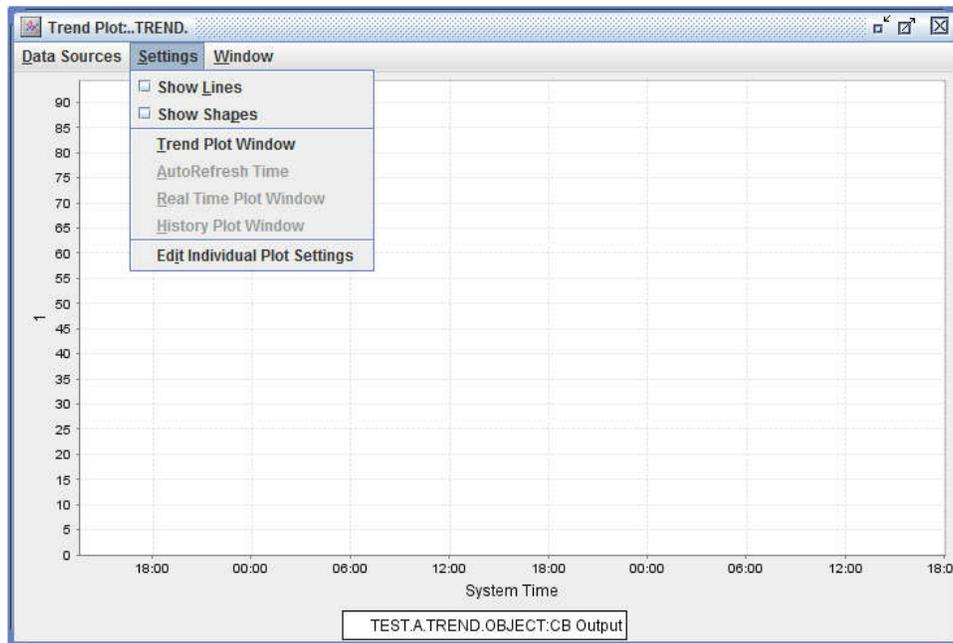
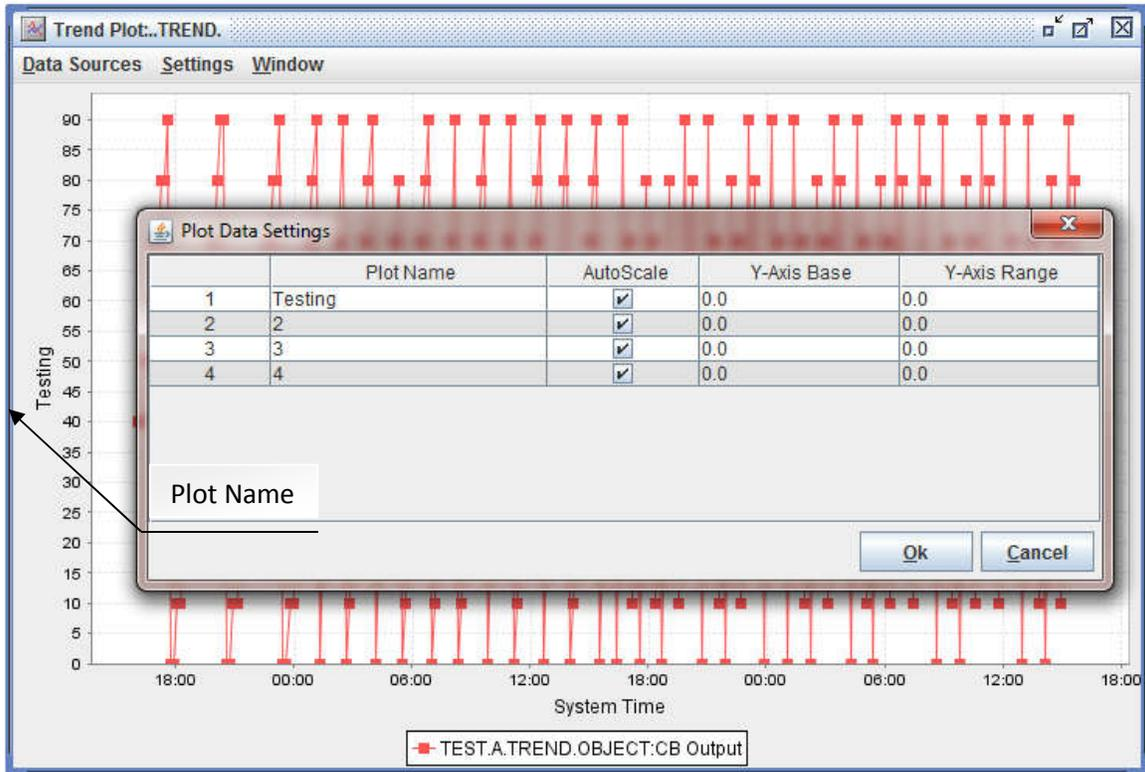

Figure 65 - Settings Menu in the Trend Plot Window
Figure 69 - Plot Data Settings Window
Figure 65 shows the Settings menu in the Trend Plot window. With the Settings menu, a user can do the following:
1. Click the Trend Plot Window command as show in Figure 65 to open the Object Trend Plot Window (Figure 66).
A trend plot window can plot up to four plots. Each plot can have a user defined name. The name can be assigned in the Plot Data Settings window as shown in Figure 69. The default name of each plot is the same as its plot number.
2. Click Edit Individual Plot Settings (Figure 65) to open the Plot Data Settings window (Figure 69).
4. Type in the plot name. In Figure 69, the name of Plot 1 is "Testing" which is displayed on the left side of the y-axis.
If the AutoScale option box is checked (Figure 69), the y-axis scale will be automatically scaled based on the maximum value of the data. Otherwise, the user needs to define the Y-Axis Base and Y-Axis Range of the plot.
3. Type in the value for the origin of the Y-Axis ( Figure 69)